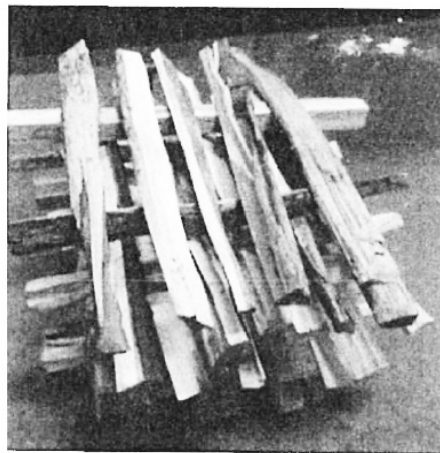

Figure 34. Criss-Cross Pattern
1. Cut and split kindling pieces approximately 16” long. The recommended piece size is 1/2” - 3/4” in cross section. Cut and split kindling pieces at 12” long and about 1/2” in cross section. The kindling should be very dry and the total weight would be about 3-1/2 lbs. if hardwood. A recommended stacking arrangement of the fuel pieces is shown in Figure 34.